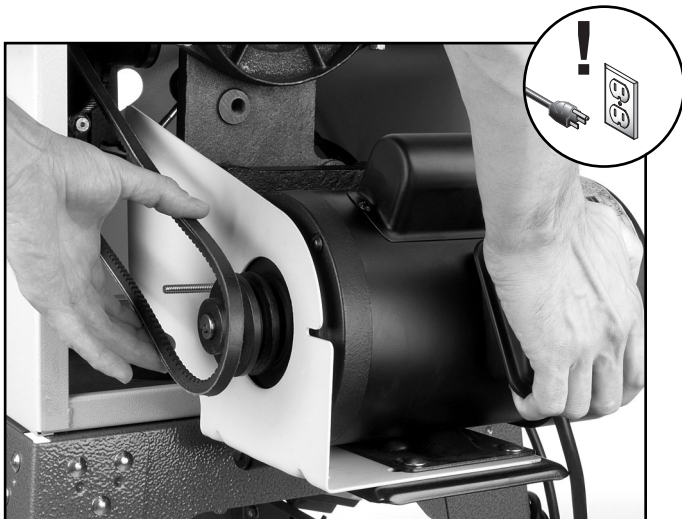

Figure 22. V-belt installation.
9. Raise the motor assembly and slip the V-belt over the motor and arbor pulleys (**Figure 22**). Lower the motor assembly to tension the V-belt.